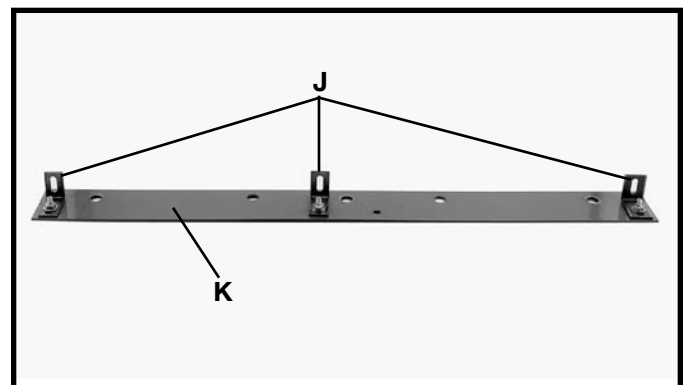

Fig. 11
8. Assemble the three brackets (J) to the table adapter plate (K) using the three 1/4-20x3/4" carriage bolts, nuts and washers, as shown in Fig. 11. **NOTE:** The long leg of the brackets (J) should be against the adapter plate (K) as shown. Do not completely tighten brackets (J) to adapter plate (K) at this time.